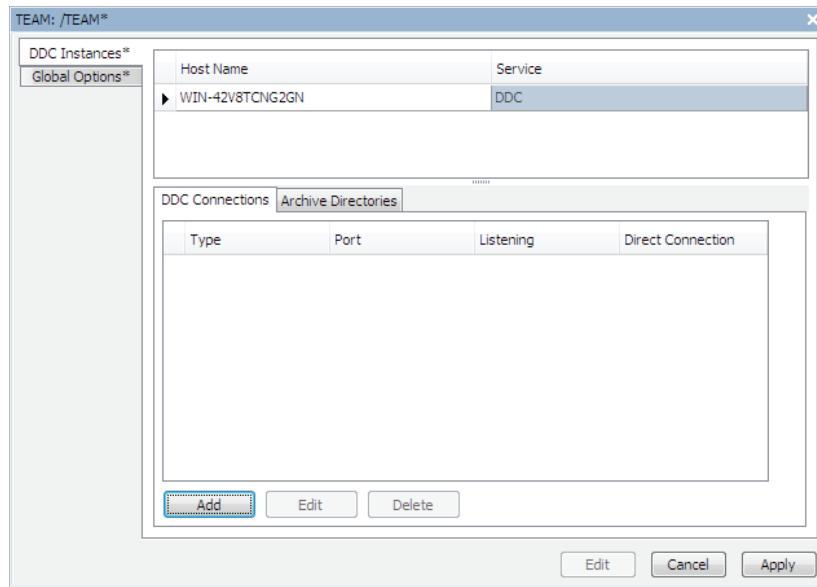

Figure 27 TEAM DDC Instances Window
- Step 1. Select the **DDC Instances** tab in the TEAM window and select **Edit**. Select **Add**, as shown in *Figure 27*, to open the **Device Data Collection Wizard**.